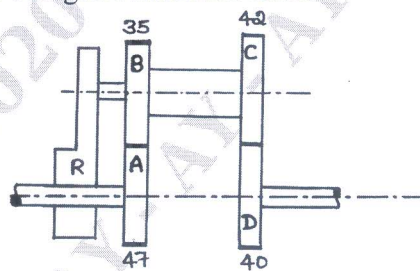

Fig.Q7(b)
- An epicyclic gear train as shown in Fig.Q7(b). The wheel 'A' is fixed and the input at the arm 'R' is 3 kW at 600 rpm. Find the speed of wheel 'D' and the torque on it and the torque required to hold the wheel 'A'. Neglect frictional losses.